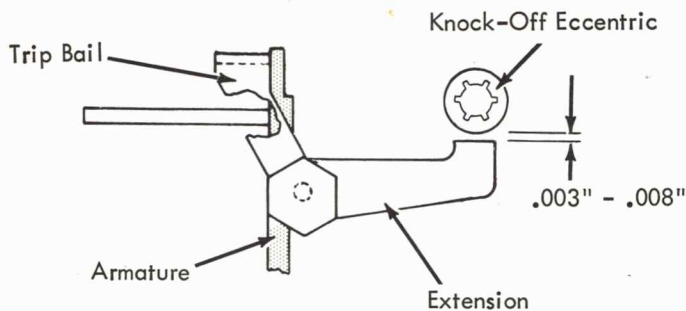

FIGURE 17. Knock Off Eccentrics
- b. Apply slight pressure to the knockoff extension (Fig. 17) or trip link extension to hold the bail in contact with the armatures.
9. Knock Off Eccentrics (Fig. 17) - Adjust (T2 and R5 armatures manually attracted) to clear the trip bail extensions by .003" to .008".
4. Knock-Off Eccentric (Late Style) - The redesigned trip bail contains only one extension. It is adjusted to .003" to .008" as shown on Fig. 17.